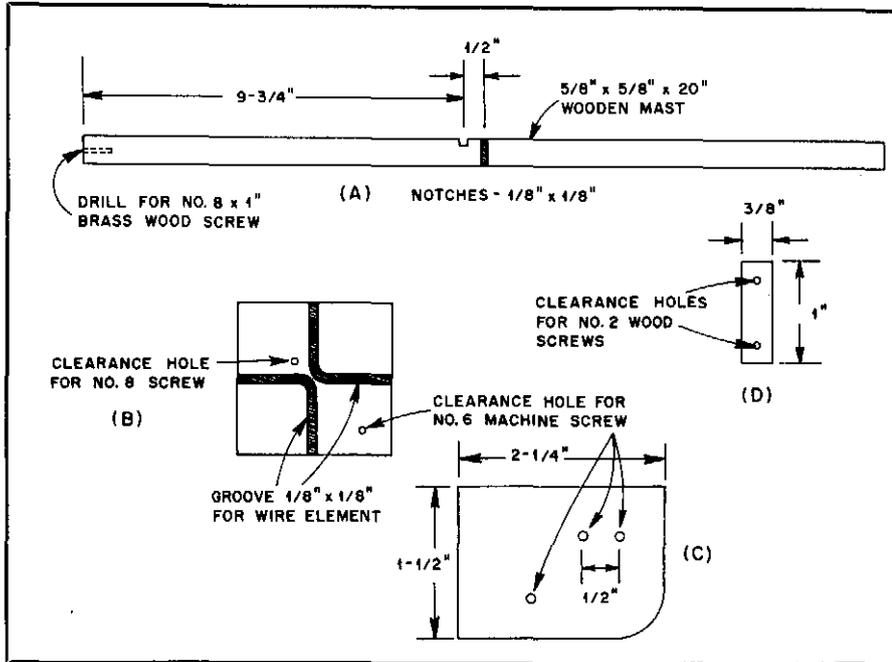

Fig 4—Construction details of the mast (A), top mount (B), feed-point insulator (C) and lower element clips (D) of WA8ZVT's compact  $1\lambda$  2-meter antenna.
up with the antenna shown in Figs 4 and 5. It is small and provides both horizontally and vertically polarized radiation components. It is easy to build and small enough to use in an apartment window. Try building one—it's great!
A 5/8-inch-square, 20-inch-long wooden mast supports the wire element. Notch the mast and fabricate the top mount, clips and feed-point insulator as shown in Fig 4.
Fig 4—Bob Kuehn added this 14-MHz series-resonant circuit (L1C1) to clean up the output of a push-push doubler in his homemade QRP transmitter. L1 consists of 44 turns of no. 24 enameled wire on a T-68-2 powdered-iron toroidal core. C1 is a small air-dielectric capacitor capable of being set to about 11.5 pF.
□ During cut-and-try construction of a QRP CW rig that uses push-push doubling to produce 14-MHz drive from a 7-MHz VFO, I discovered that the stages following the doubler had output everywhere *except* 14 MHz! I solved this problem by installing a series-resonant tuned circuit between the doubler and its buffer stage (Fig 4). I have